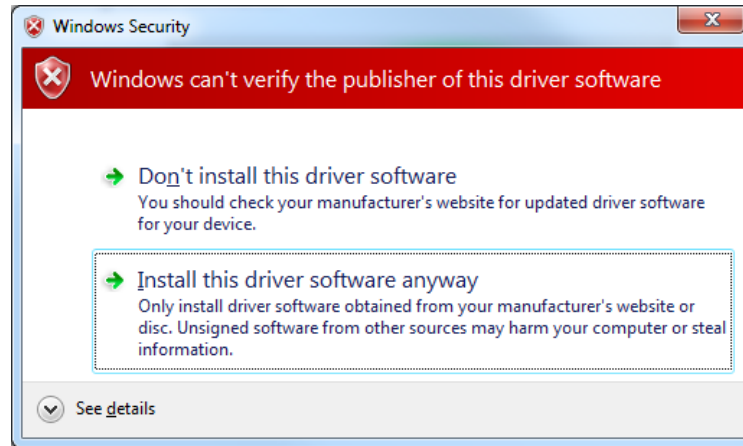

Figure 4 - USB Driver Installation Message Box
- Install the USB driver when requested. The driver is in the same folder where the '**ES9942EFxx.zip**' files were extracted to, in directory '.\Driver'. Follow instructions on the screen to install the USB driver. Click 'Install this driver software anyway' when the Message Box in Figure 4 is shown.